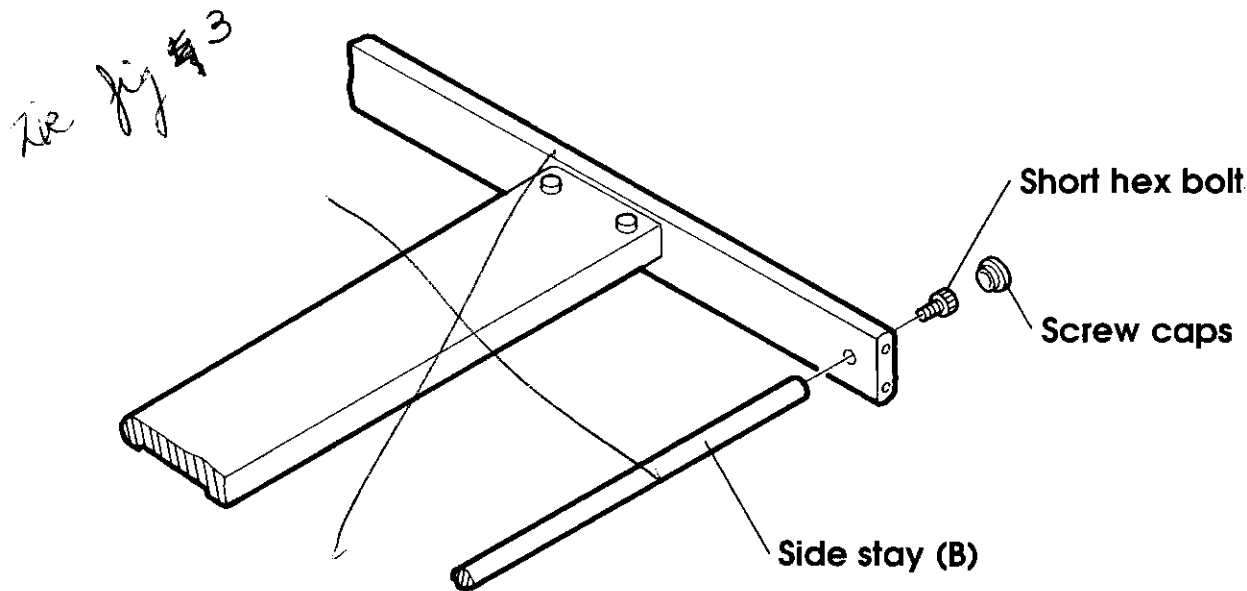

Figure 2.6 Alignment of Side-Stay (B)
Position side-stay (B) between the left and right supports and align the screw holes as in Step 2 (Figure 2.6).